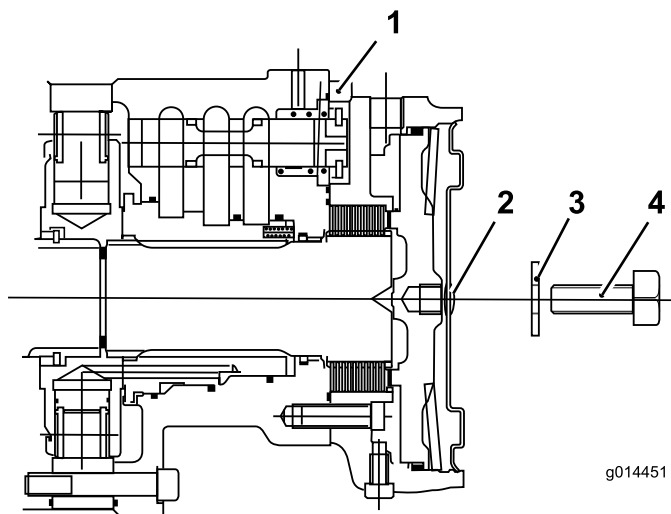

Figure 62
- C. Assemble the hex plug into the motor end plate (Figure 62).